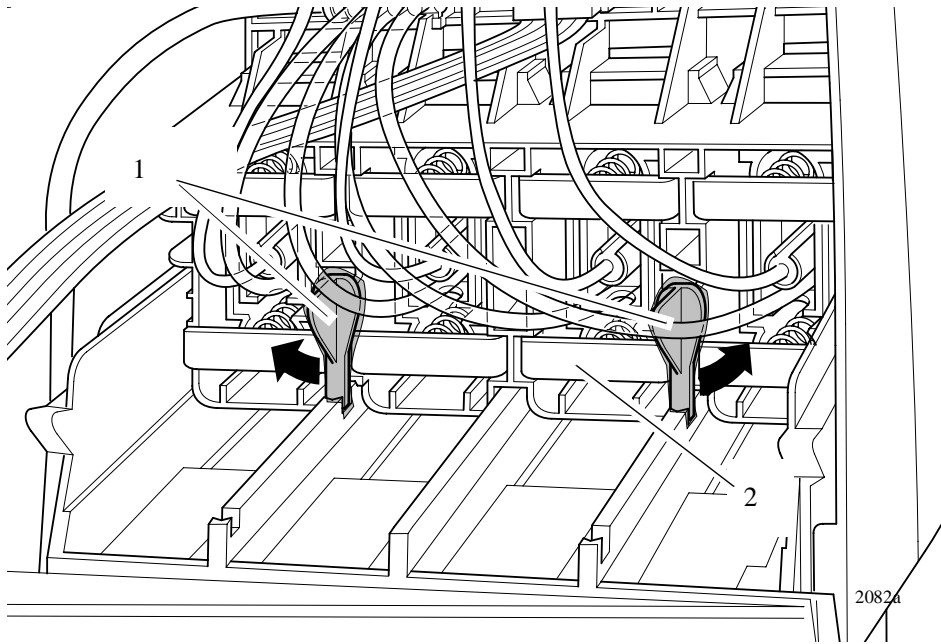

Figure 58: Latches
9. Twist the two latches (item 1) at the rear of the ink cartridge tube connector (item 2) to the outwards. This will release the complete assembly (refer to Figure 58).